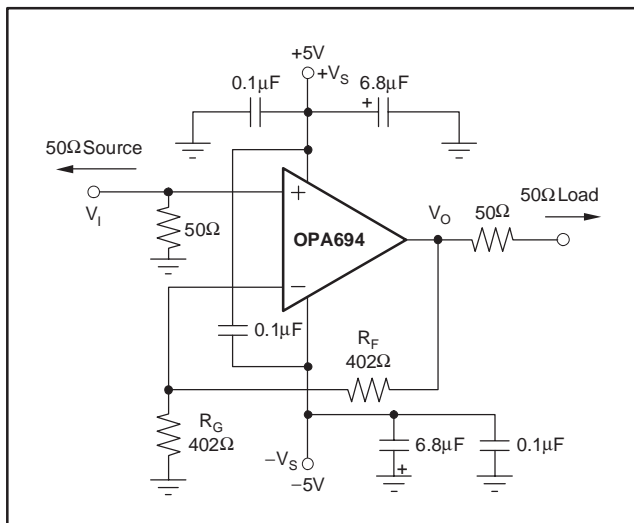
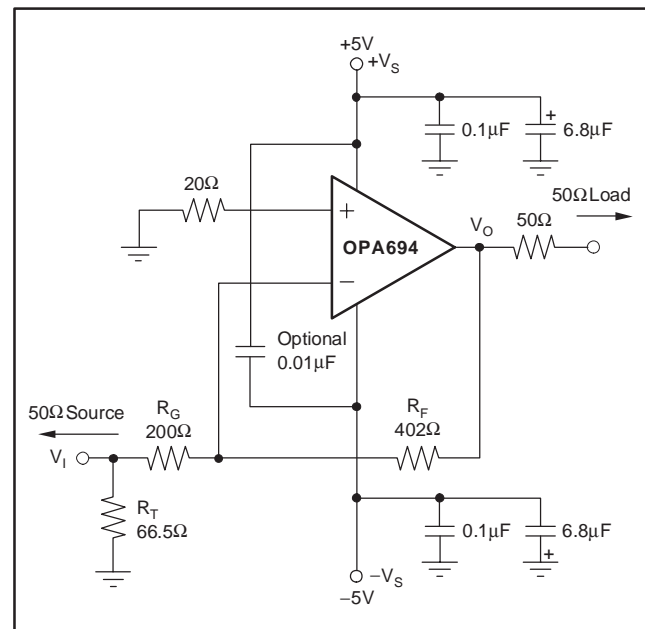
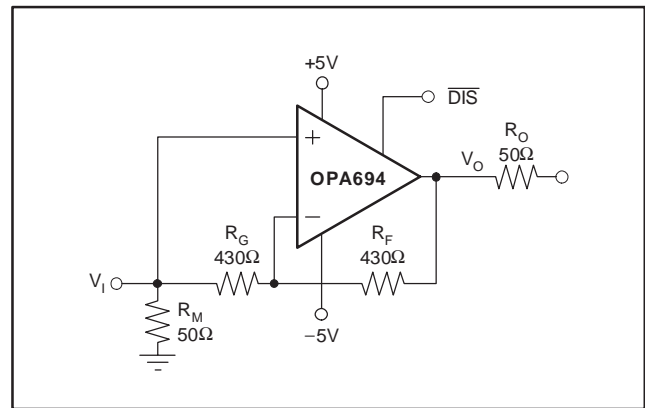
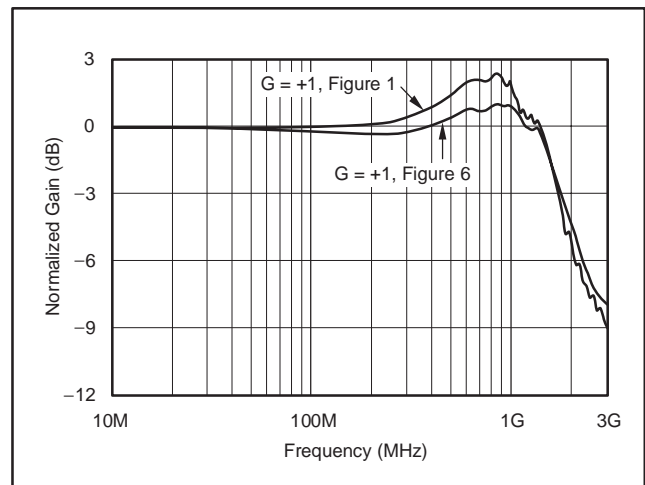

Figure 1. DC-Coupled, G = +2, Bipolar-Supply Specification and Test Circuit
Figure 2. DC-Coupled, G = $-2V/V$, Bipolar-Supply Specification and Test Circuit
Figure 6. Improve Unity Gain Buffer
Figure 7. Gain of +1 Frequency Response
Figure 1 shows the DC-coupled, gain of +2, dual power-supply circuit configuration used as the basis of the \pm 5V Electrical Characteristic tables and Typical Characteristic curves. For test purposes, the input impedance is set to 50 Ω with a resistor to ground and the output impedance is set to 50 Ω with a series output resistor. Voltage swings reported in the Electrical Characteristics are taken directly at the input and output pins, while load powers (dBm) are defined at a matched 50 Ω load. For the circuit of Figure 1, the total effective load will be 100 Ω || 804 Ω = 89 Ω . One optional component is included in Figure 1. In addition to the usual power-supply decoupling capacitors to ground, a 0.1 μ F capacitor is included between the two power-supply pins. In practical PC board layouts, this optional added capacitor will typically improve the 2nd-harmonic distortion performance by 3dB to 6dB.
Figure 2 shows the DC-coupled, gain of $-2V/V$, dual power-supply circuit used as the basis of the inverting Typical Characteristic curves. Inverting operation offers several performance benefits. Since there is no common-mode signal across the input stage, the slew rate for inverting operation is higher and the distortion performance is slightly improved. An additional input resistor, R_T , is included in Figure 2 to set the input impedance equal to 50 Ω . The parallel combination of R_T and R_G sets the input impedance. Both the noninverting and inverting applications of Figure 1 and Figure 2 will benefit from optimizing the feedback resistor (R_F) value for bandwidth (see the discussion in *Setting Resistor Values to Optimize Bandwidth*). The typical design sequence is to select the R_F value for best bandwidth, set R_G for the gain, then set R_T for the desired input impedance. As the gain increases for the inverting configuration, a point will be reached where R_G will equal 50 Ω , where R_T is removed and the input match is set by R_G only. With R_G fixed to achieve an input match to 50 Ω , R_F is simply increased, to increase gain. This will, however, quickly reduce the achievable bandwidth, as shown by the inverting gain of -10 frequency response in the Typical Characteristic curves. For gains > 10V/V (14dB at the matched load), noninverting operation is recommended to maintain broader bandwidth.
The unity gain buffer configuration of Figure 1 shows a peaking in the frequency response exceeding 2dB. This gives the slight amount of overshoot and ringing apparent in the gain of $+1V/V$ pulse response curves. A similar circuit that holds a flatter frequency response, giving improved pulse fidelity, is shown in Figure 6.
This circuit removes the peaking by bootstrapping out any parasitic effects on R_G . The input impedance is still set by R_M as the apparent impedance looking into R_G is very high. R_M may be increased to show a higher input impedance, but larger values will start to impact DC output offset voltage. This circuit creates an additional input offset voltage as the difference in the two input bias currents times the impedance to ground at V_I . Figure 7 shows a comparison of small-signal frequency response for the unity gain buffer of Figure 1 compared to the improved approach shown in Figure 6. Either approach gives a low-power unity-gain buffer with $> 1.56\text{GHz}$ bandwidth.
The OPA694 provides good distortion performance into a 100Ω load on $\pm 5V$ supplies. Generally, until the fundamental signal reaches very high frequency or power levels, the 2nd-harmonic will dominate the distortion with a negligible 3rd-harmonic component. Focusing then on the 2nd-harmonic, increasing the load impedance improves distortion directly. Remember that the total load includes the feedback network—in the noninverting configuration (see Figure 1), this is the sum of $R_F + R_G$, while in the inverting configuration it is just R_F . Also, providing an additional supply decoupling capacitor ($0.1\mu F$) between the supply pins (for bipolar operation) improves the 2nd-order distortion slightly (3dB to 6dB).
Evaluating these two equations for the OPA694 circuit and component values (see Figure 1) gives a total output spot noise voltage of $11.2\text{nV}/\sqrt{\text{Hz}}$ and a total equivalent input spot noise voltage of $5.6\text{nV}/\sqrt{\text{Hz}}$. This total input-referred spot noise voltage is higher than the $2.1\text{nV}/\sqrt{\text{Hz}}$ specification for the op amp voltage noise alone. This reflects the noise added to the output by the inverting current noise times the feedback resistor. If the feedback resistor is reduced in high-gain configurations (as suggested previously), the total input-referred voltage noise given by Equation (5) will approach just the $2.1\text{nV}/\sqrt{\text{Hz}}$ of the op amp itself. For example, going to a gain of +10 using $R_F = 178\Omega$ will give a total input-referred noise of $2.36\text{nV}/\sqrt{\text{Hz}}$.
A current-feedback op amp like the OPA694 provides exceptional bandwidth in high gains, giving fast pulse settling, but only moderate DC accuracy. The Electrical Characteristics show an input offset voltage comparable to high-speed, voltage-feedback amplifiers. However, the two input bias currents are somewhat higher and are unmatched. Whereas bias current cancellation techniques are very effective with most voltage-feedback op amps, they do not generally reduce the output DC offset for wideband, current-feedback op amps. Since the two input bias currents are unrelated in both magnitude and polarity, matching the source impedance looking out of each input to reduce their error contribution to the output is ineffective. Evaluating the configuration of Figure 1, using worst-case +25°C input offset voltage and the two input bias currents, gives a worst-case output offset range equal to:
As a worst-case example, compute the maximum T_J using an OPA694IDBV (SOT23-5 package) in the circuit of Figure 1 operating at the maximum specified ambient temperature of +85°C and driving a grounded 20Ω load to +2.5V DC: